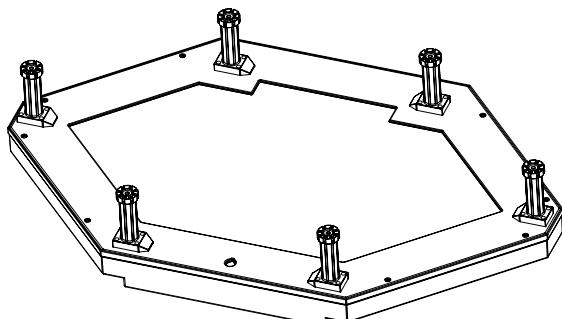

Fig. 8-1
1. For integration into the kitchen begin with the floor element. Preassembly the 6 pcs. Of the adjustable feet into the feet seat (figure 8-1/8-2). Adjust the floor element to the desired height in relation to plinth height of the kitchen. Check that the floor element is stable and level. The maximum plinth height is 190mm and the minimum is 145mm. The floor element must be stable and level. This is essential to ensure the Corner Fridge will achieve a good seal.